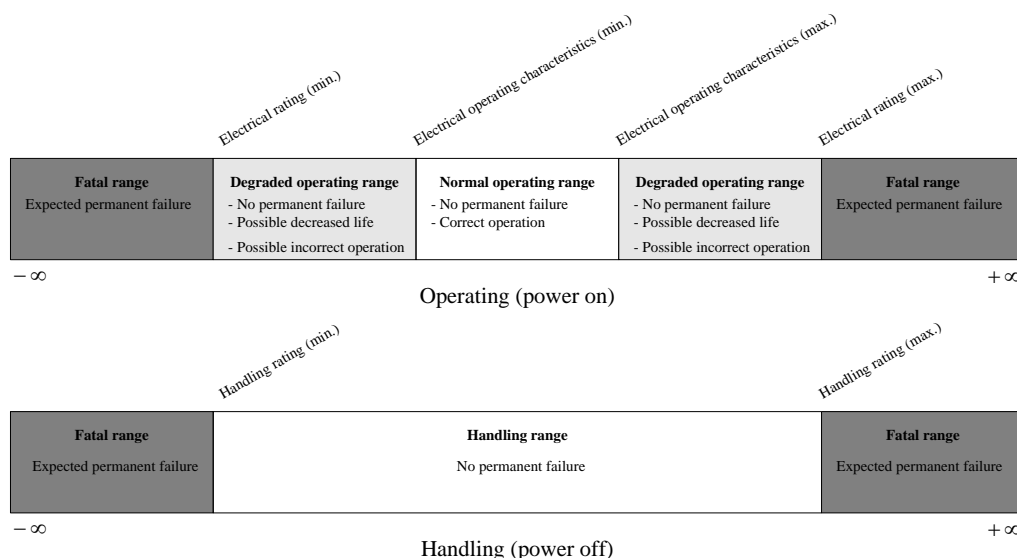

Figure 4. Relationship between ratings and operating characteristics
- To assure chip reliable operation, reserve enough margin for chip electrical design. Figure 4 shows the relationship between electrical ratings and electrical operating characteristics for correct chip operation.